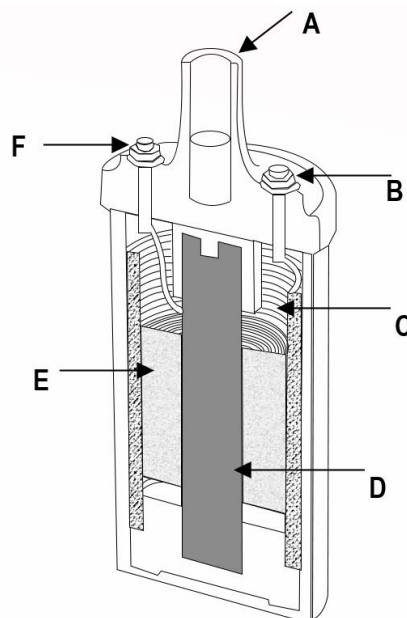

FIGURE 4
- 5.4 FIGURE 4 below shows a conventional ignition coil. Identify and name the components labelled (A – F) in the ANSWER BOOK. (6)